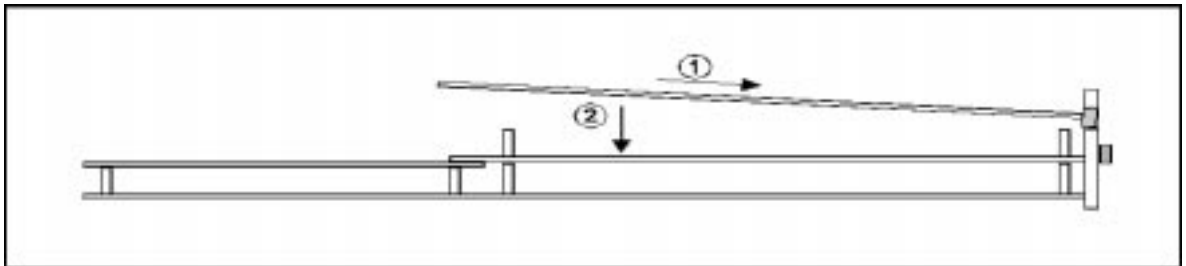

Figure 2-1 Installing a Fast Ethernet physical module
- 3 Hold the physical module at an angle behind the front panel so the connectors on the physical module are aligned with the unoccupied cutout on the front panel, and insert the connector into the cutout. (See 1 in Figure 2-1).
- 4 Lower the card on to the spacers located on the 7600 Card, making sure that the screws on the physical module fit into the spacers. (See 2 in Figure 2-1).